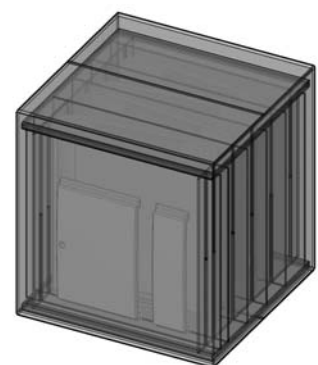

Figure 2 - Sava stove ceramic packaging
- one contains the ceramic parts (sides and fronts) figure 2 (the box containing the ceramic parts will be placed on top of the structure packaging)